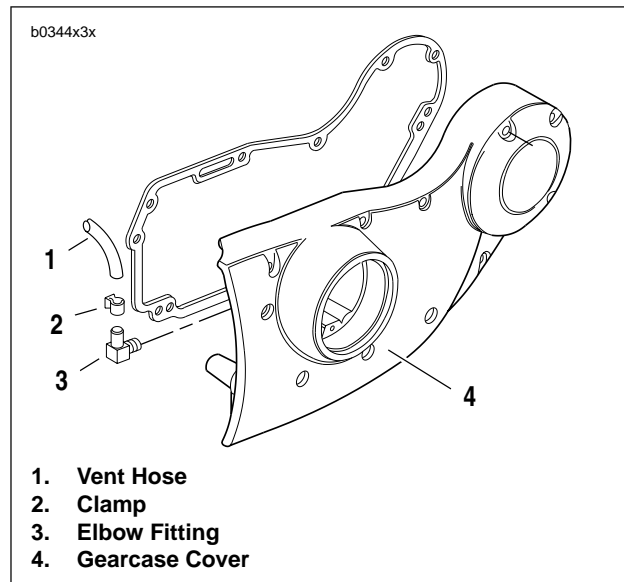

Figure 3-45. Vent Hose Connection (Typical)
After diverging from the feed and return hoses, the vent hose is routed beneath the starter. It continues on to the right side of the motorcycle. See Figure 3-45. Here the vent hose (1) connects to an elbow fitting (3) on the gearcase cover (4).